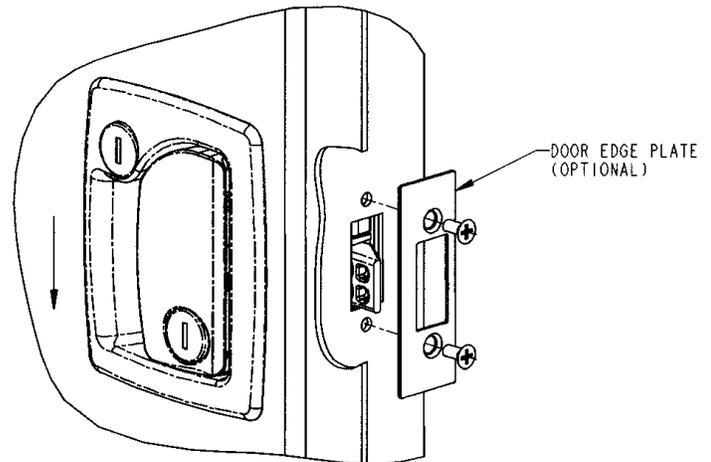

Fig. 10
**SECURING LATCH TO DOOR EDGE (FIG. 10)**
Secure the latch to the door edge with the door edge mounting screws and door edge plate (if used). **Before tightening the door edge screws, push latch up or down in direction shown (Fig. 10) as far as possible in cutout.** Tighten the door edge mounting screws and the mounting screws used on the inside plate enough to prevent slipping of the latch in the cutout. **Do not tighten excessively as this may cause stripping of the threads and/or bending of the inside plate (recommended torque is 40-50 in•lbs.).** Remove any excess caulk or butyl tape that may have been forced out from under the flange of the outside paddle assembly onto the door.